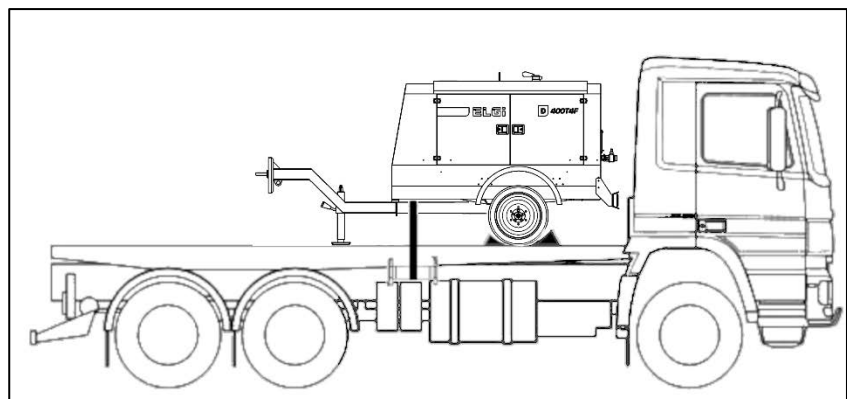

Figure 6.1-1 Instruction for towing in safe conditions
- 2) Locate the motocompressor as in Figure 6.1-1.